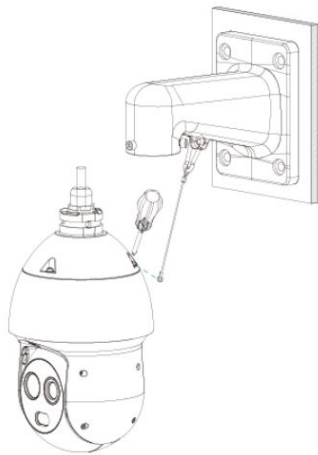

Figure 2-2
Step 2 We recommend installing the supplied safety cable from the camera to the mount to prevent damage when mounting the camera, as shown in Figure 2-2.